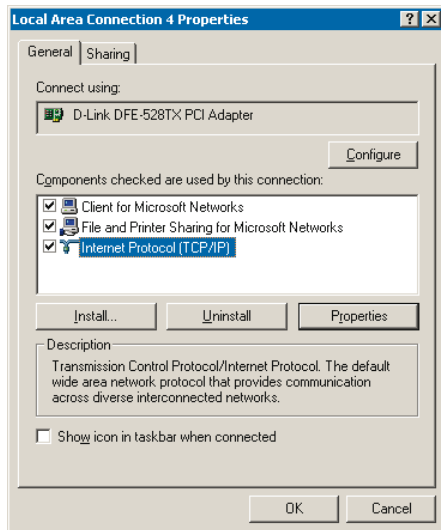

Figure 6.2 Local Area Connection Properties
- 4.3. Right-click on the new adapter and select **Properties**. A new dialog box will appear (see Figure 6.2).